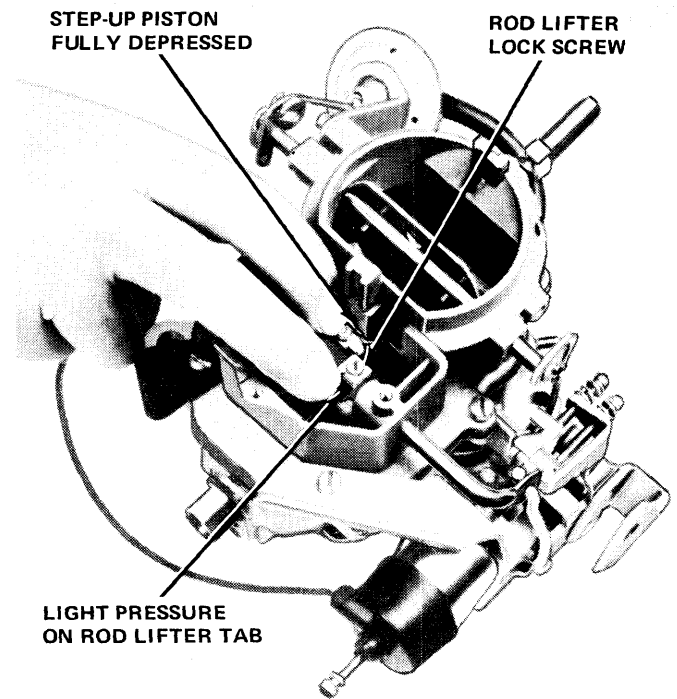

Fig. 4-57 Vacuum Piston Adjustment
(1) Adjust gap in vacuum piston to specifications as described above.
(2) Back off curb idle adjustment until throttle valves are completely closed. Count number of turns so screw can be returned to original position. Turn idle screw in one full turn.
(3) Fully depress vacuum piston while holding moderate pressure on rod lifter tab. While in this position, tighten rod lifter lock screw (fig. 4-57).
(4) Release piston and rod lifter.
(5) Adjust accelerator pump as outlined below.
(6) Return curb idle screw to its original position.
(7) Install dust cover.